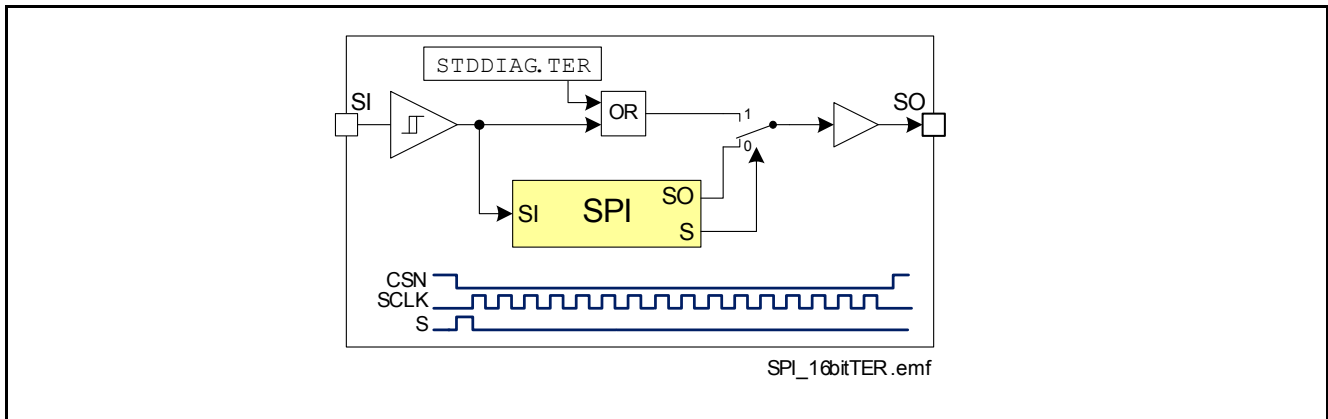

Figure 39 Combinatorial Logic for TCR bit
- **TER** Flag will set the Bit number 10 in the STD diagnosis Frame. This Bit is set to HIGH after an undervoltage condition, reset via SPI command, on Limp Home state entering or after an incorrect SPI transmission. **TER** Flag can be read also directly on the SO line between the falling edge of the CSN and the first rising edge of the SCLK according to the Figure 39.